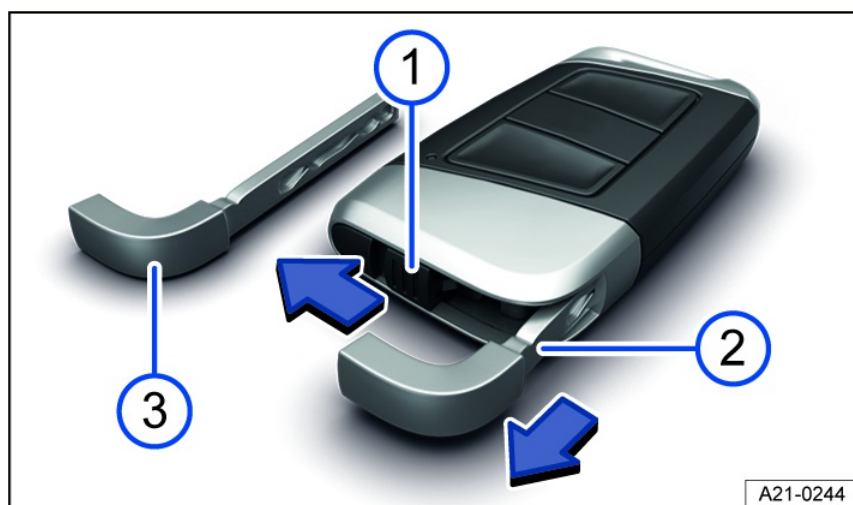

Fig. 53 Vehicle key: Unlocking the emergency key (general example).
- ① Push the locking mechanism in the direction of the arrow.
- ② Remove the emergency key in the direction of the arrow.
- ③ Emergency key.
There may be an emergency key fig. 53 ③ located in the vehicle key that can be used to manually unlock and lock the vehicle.